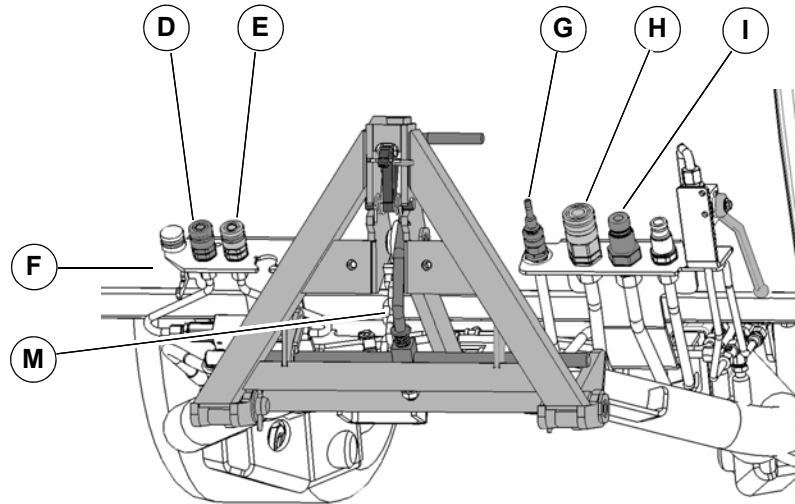

Fig. 97:
- Swivelling sweeping unit – supply/return = **Fig. 97-D/E**
- 19-pin coding plug = **Fig. 97-F**
- Fresh water connection for the spray nozzles = **Fig. 97-G**
- Sweeping unit hydraulic motors – supply/return = **Fig. 97-I/H**
10. Hook the chain **Fig. 97-M**.